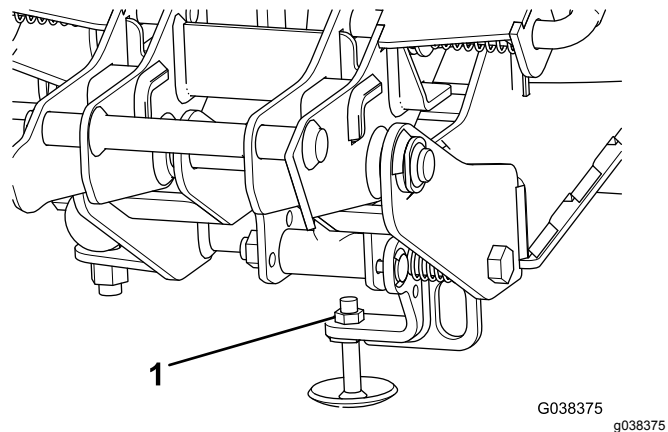

Figure 14
3. Loosen the jam nut on the kickstand (Figure 14).
5. Tighten the jam nut (Figure 14).